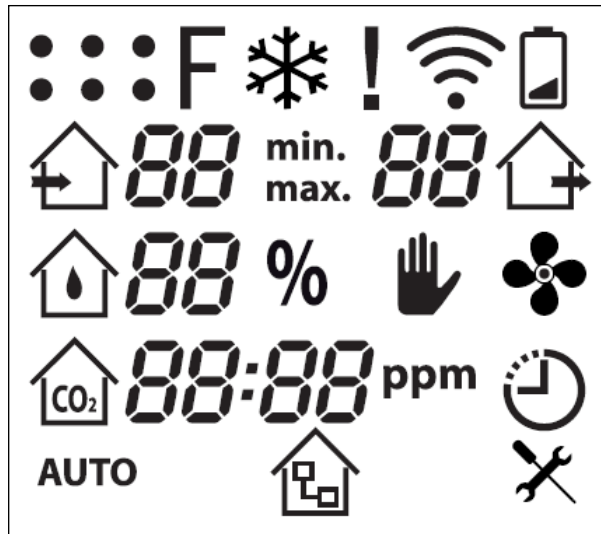

Fig. 3: Symbols on the LCD display
- First all available symbols are displayed (see Fig. 3 on page 12).